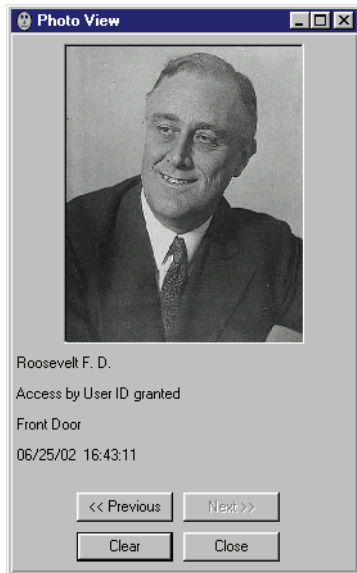

Figure 5-45: Photo View Window With Photo
4. As a user attempts to gain access to the master controller, the photo associated with that user will appear in the Photo View window (see Figure 5-45 on page 43 of this section).